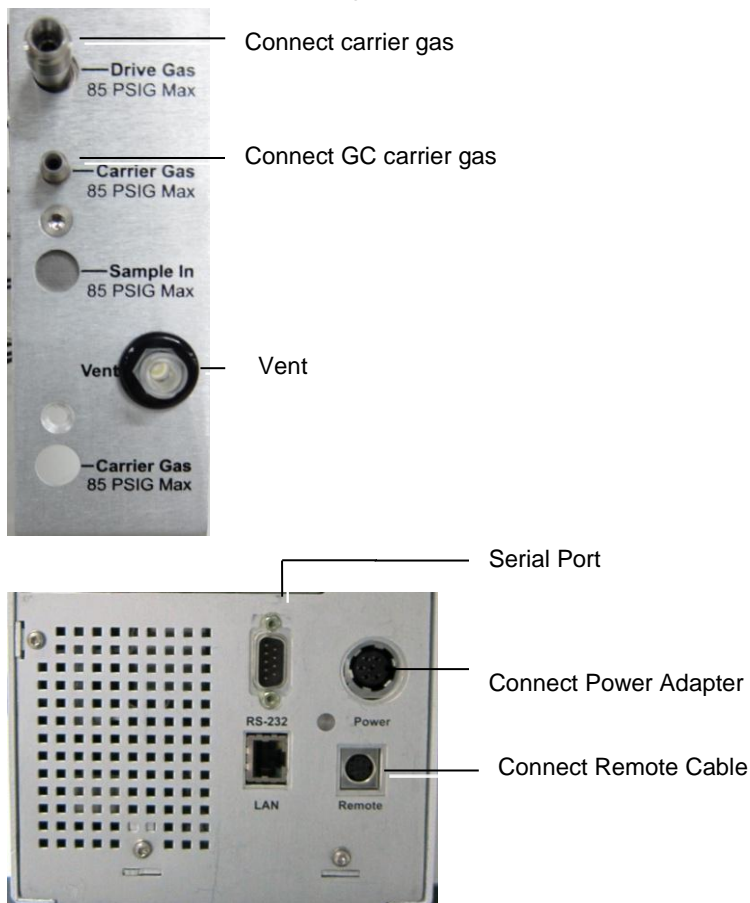

Figure 20 Cable and Gas Line interface of G4370A
8. Install the Latch/clamp onto the bracket. Adjust the position of the clip so that it supports the transfer line at the highest possible position above the GC, as shown in Figure 20.
3. Connect the Gas Line according to Figure 20.